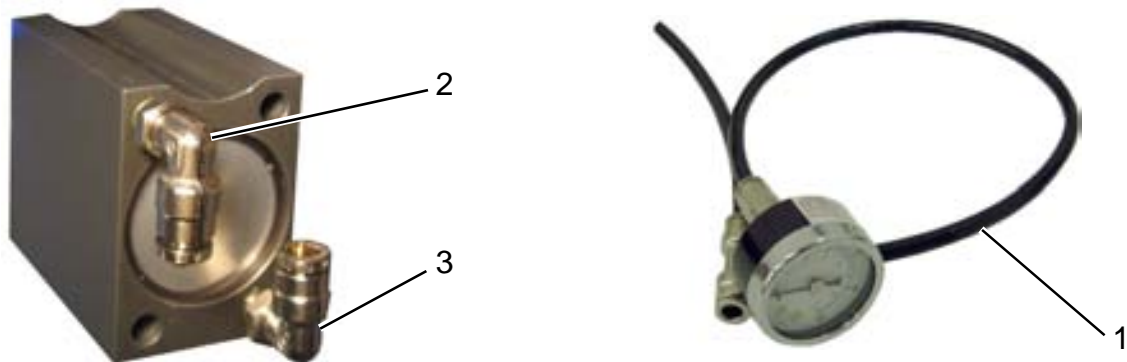

Figure 33
The most effective way to test and verify if the AutoReach Soft-Stop System is operating properly is to install the supplied 0-150 psi air gauge kit (**Figure 33, 1**) between the air actuator and the VA20 valve assembly.
- Remove the air line from the air actuator fitting located at "Port 1" (**Figure 33, 2**). Install the air line into the tee fitting of the air gauge kit. Install air line from air gauge kit tee fitting into air actuator fitting at "Port 1".
- Remove the air line from air actuator fitting located at "Port 2" (**Figure 33, 3**). Install the air line into the tee fitting of the air gauge kit. Install air line from air gauge kit tee fitting into air actuator fitting at "Port 2".